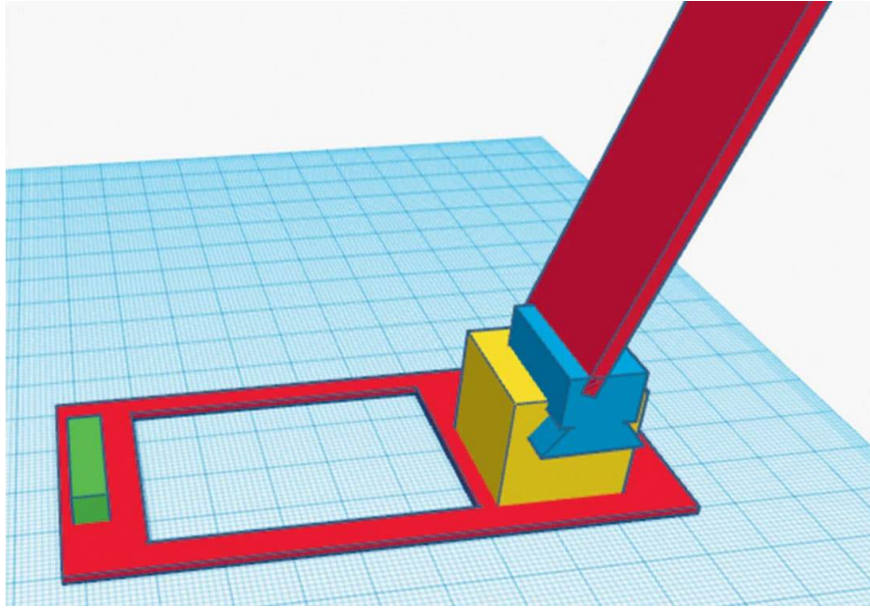

FIG. 3: *The assembled view of the cell phone holder.*
Add a cut-out in the base. This is not necessary, but can save material. See fig. 3 for details. The size of the cut-out can vary depending on the amount of material you want to save.
- Consider creating some holes, to save material (see the rectangular-shaped hole in the base in fig. 3).